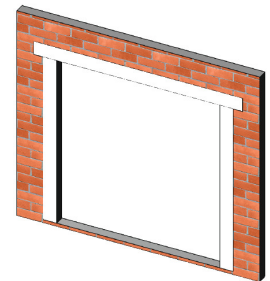

Figure 23:
3. Finally, at the head, embed the flashing into the sealant on the mounting flange and fasten into place. The flashing paper should be cut sufficiently long enough to extend past the flashing paper at each jamb by at least 3 in (Figure 23).